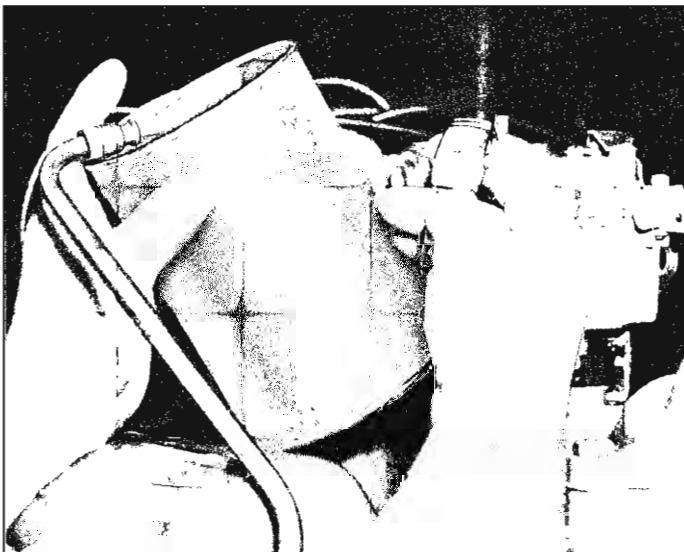

Fig. 42—Fuel Pump Volume Test
1. Disconnect fuel line at carburetor and direct it into a container, preferably one indicating the *pint* level (fig. 42).